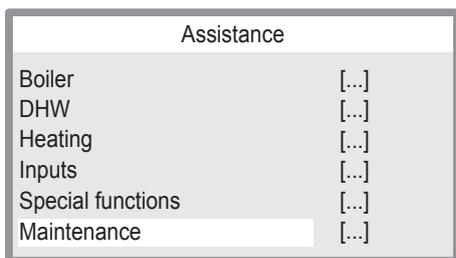

Figure 4.20
- 3 Press key "D" (Figure 4.17) to access the selected menu (Figure 4.20).